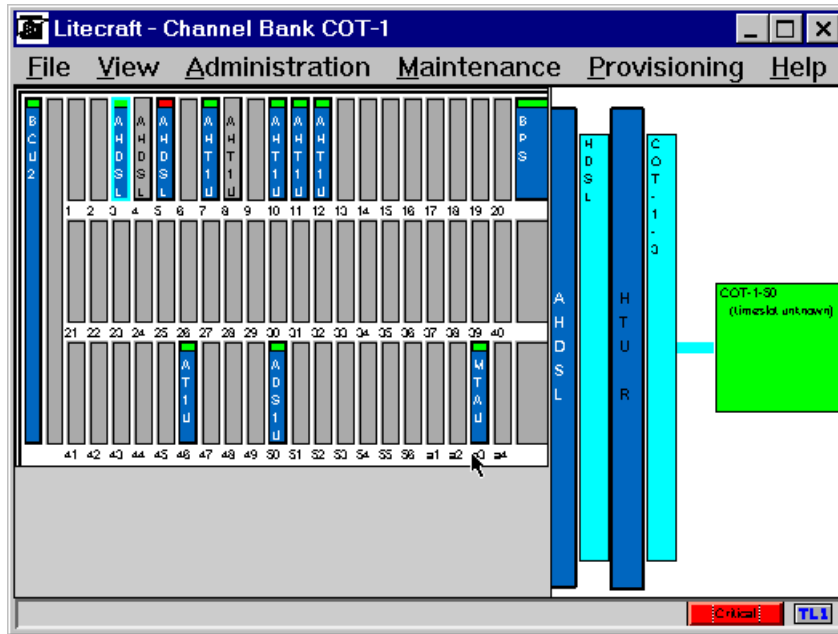
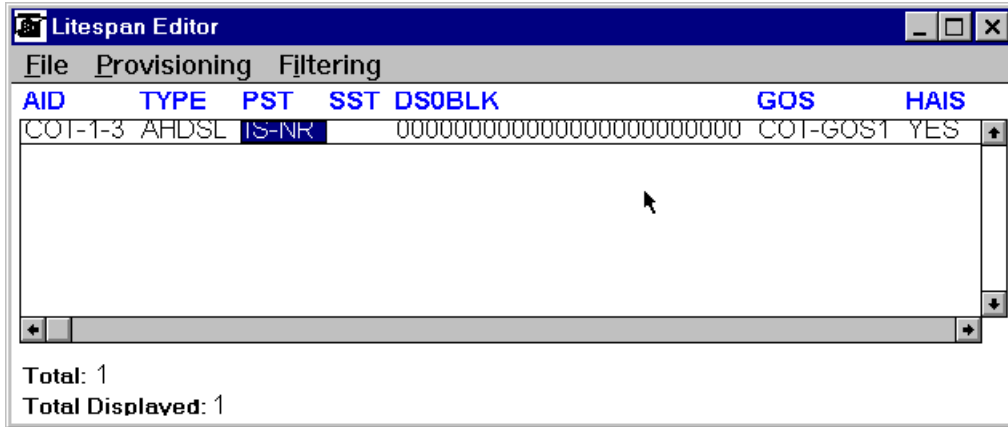
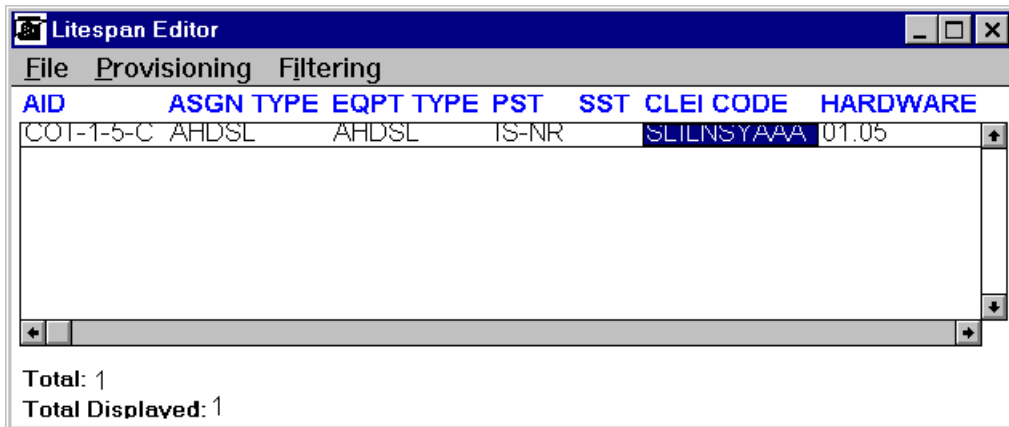
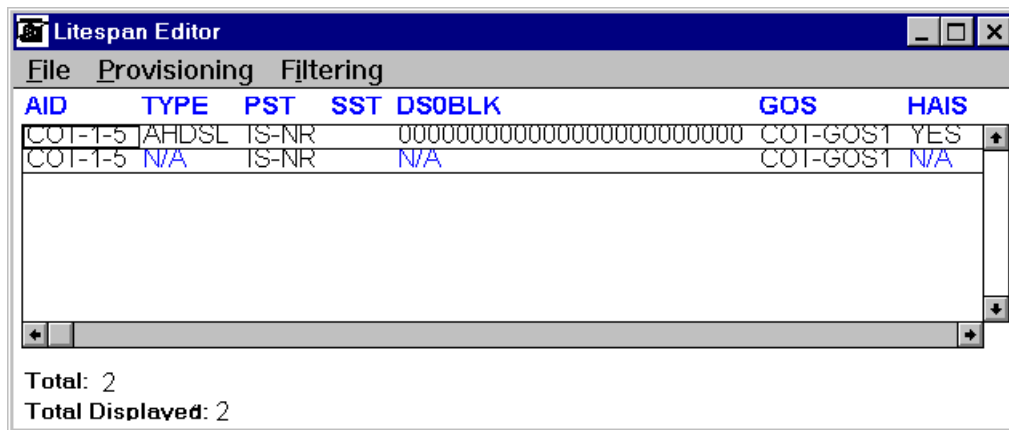

Figure 10. Cross Connection Diagram
Figure 12. Provisioning Edit Facilities Screen
Figure 13. System Inventory Screen
Figure 14. HDSL/T1 Provisioning Screen 1
Figure 10 on page 17 shows the CBA screen with a Cross Connection in effect between slot 4 and slot 50. To delete an existing Cross Connection, select **Provisioning | Cross Connect | Delete Cross Connect**.
- 1 Select **Provisioning | Equipment | Edit Equipment** from Figure 10. The Litespan Equipment Edit screen in Figure 11 appears.
- 1 Highlight the HDSL box, in Figure 10 on page 17, and select **Provisioning | Facilities| Edit Facilities**. The Edit Facilities screen (Figure 12) appears.
To change the service state of the CBA, highlight the far right CBA box in Figure 10 on page 17 and then select **Provisioning | Facilities| Edit Facilities** and proceed as stated above in Step 2.
- 1 Select **Provisioning | Equipment | Edit Equipment** from the Channel Bank screen menu bar (Figure 10 on page 17). The System Inventory screen appears (Figure 13).
In the Channel Bank screen (Figure 10 on page 17) highlight the HTU-R box and select **Provisioning | Facilities | Edit Facilities**. The continuous Provisioning screen appears (Figure 14 through Figure 17 display the continuous screen as four smaller screens).
- 1 At the top of Figure 14 on page 19, locate the DS0BLK parameter and its corresponding setting.